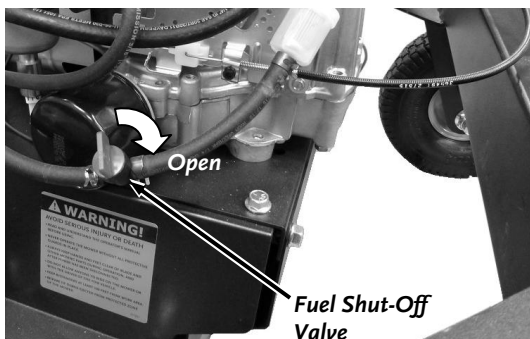

Figure 25: Pro XL60TF
3. **Pro XL60TF:** Open the Fuel Shut-Off Valve on the left hand side of the Mower (**Figure 25**).
1. Disengage the Blades by pushing the Blade Control Switch down (**Figure 25**).